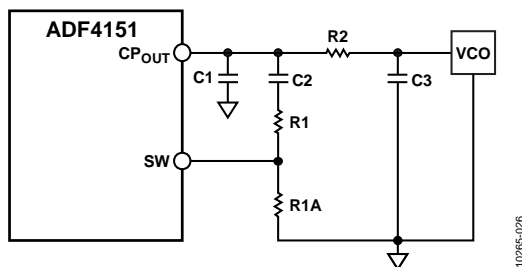

Figure 26. Fast Lock Loop Filter Topology—Topology 1
- The damping resistor (R1) is divided into two values (R1 and R1A) that have a ratio of 1:3 (see Figure 26).